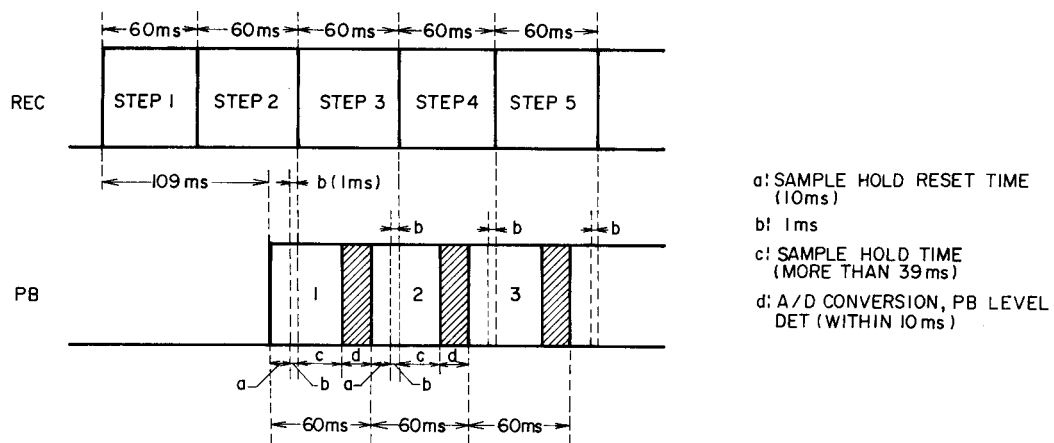

Fig. 1-8
4-4. Bias Tuning (Refer to Figs. 1-8, 9, 10)
- 3) Figure 1-8 shows the REC/PB timing.